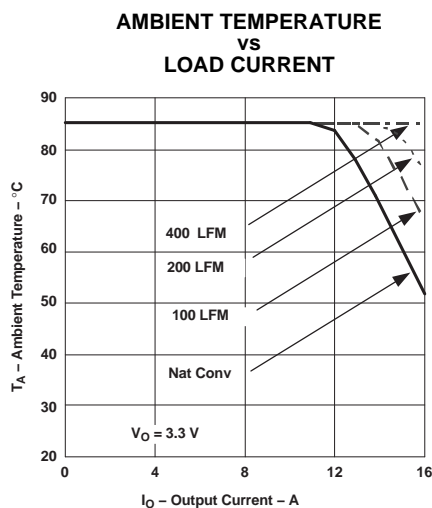

Figure 10. Safe Operating Area
- (2) The temperature derating curves represent the conditions at which internal components are at or below the manufacturer's maximum operating temperatures. Derating limits apply to modules soldered directly to a 100 mm x 100 mm double-sided PCB with 2 oz. copper. For surface mount packages (AS and AZ suffix), multiple vias must be utilized. Please refer to the mechanical specification for more information. Applies to Figure 10.